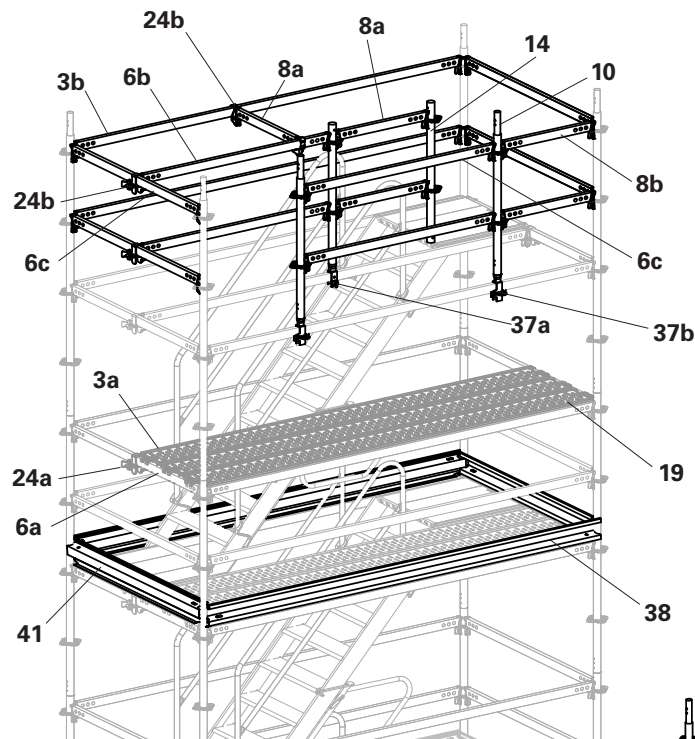
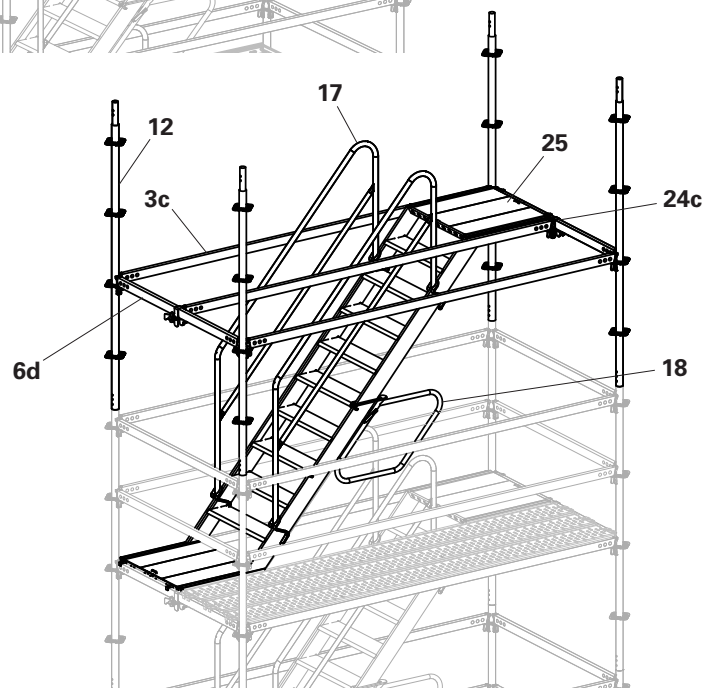

Fig. A10.01
Fig. A10.02
2. Re-position Steel Decks UDG-2 (19) in the position shown.
3. Remove the Top Standards UVR-2 100 (14), Ledger UH-2 150 (6b), Ledgers UH-2 75 (8a), Ledger Brackets UHA Half (24b) and UH Spigot-2 (37a).
4. Remove the external Horizontal Ledgers UH-2 300 (3b), Ledgers UH-2 150 (6c) Ledger UH-2 75 (8b), Standard UVR-2 100 (10) and UH Spigot-2 (37b).
5. Remove temporary Horizontal Ledger UH-2 300 (3a) and Steel Decks UDG-2 (19).
6. Remove Toeboard Steel UPY 300 (38) & UPY 150 (41). (Fig. A10.01)
7. Remove Staircase UAS-2 (25), UAG (17) and UAH-2 (18).
9. Finally, remove Standards UVR-2 200 (12). (Fig. A10.02)